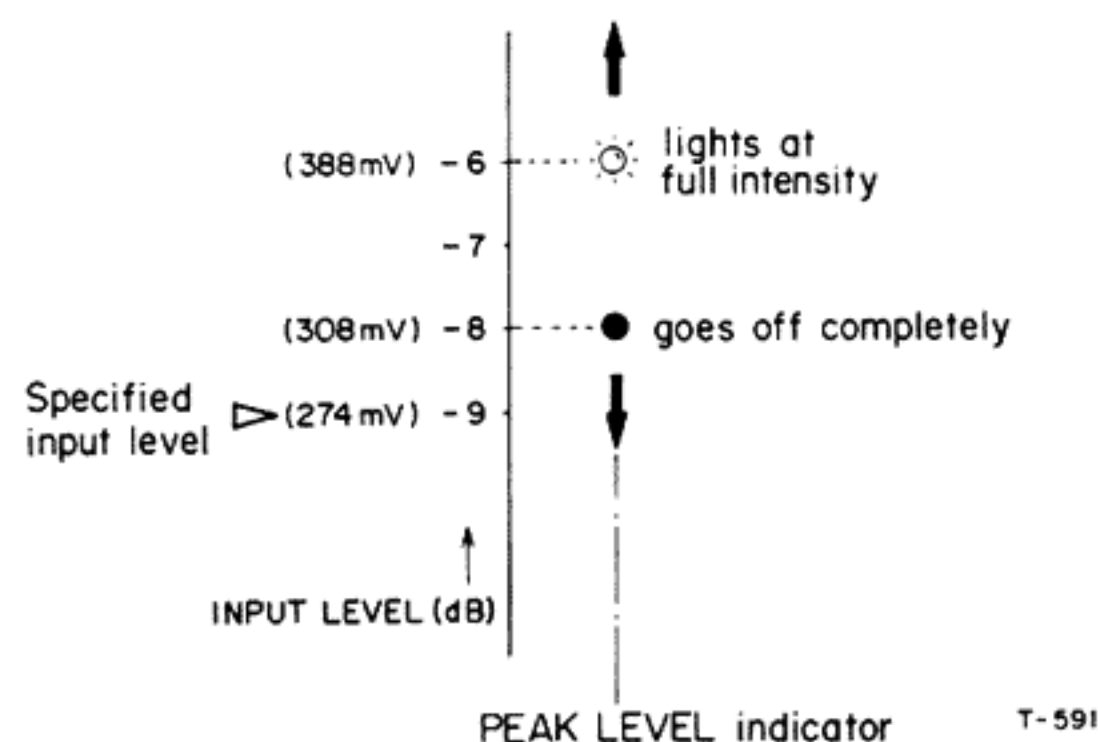

Fig. 6-3 LED Peak Level Indicator Setting
15. Adjust VR106 so that the PEAK level indicator lights as shown in Fig. 6-3, when a 400 Hz signal is applied at required level to the left channel LINE IN jack. Keep the right channel LINE IN jack disconnected from an AF oscillator.